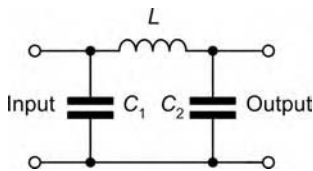

Figure 5.186 See Question 5 of Test your knowledge 5.17.
5. Identify the type of filter shown in Figure 5.186.